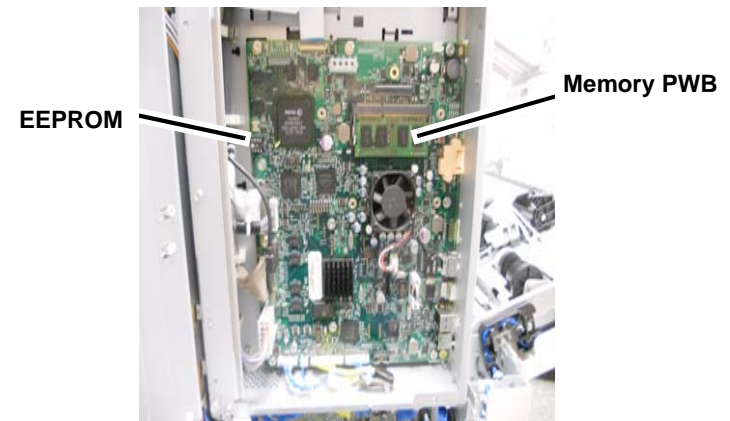

Figure 5 EEPROM and Memory PWB
- a. Remove the EEPROM and Memory PWB from the old SBC PWB and install it onto the new one (Figure 5).